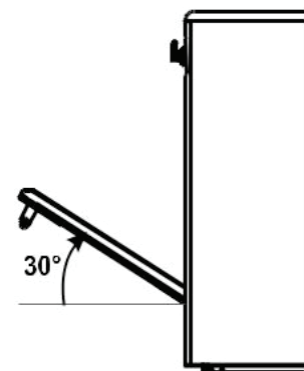

Fig. 3
2. Grasp the door on both sides with both hands, lift it forming an angle of around 30° and remove it. (Fig. 3)